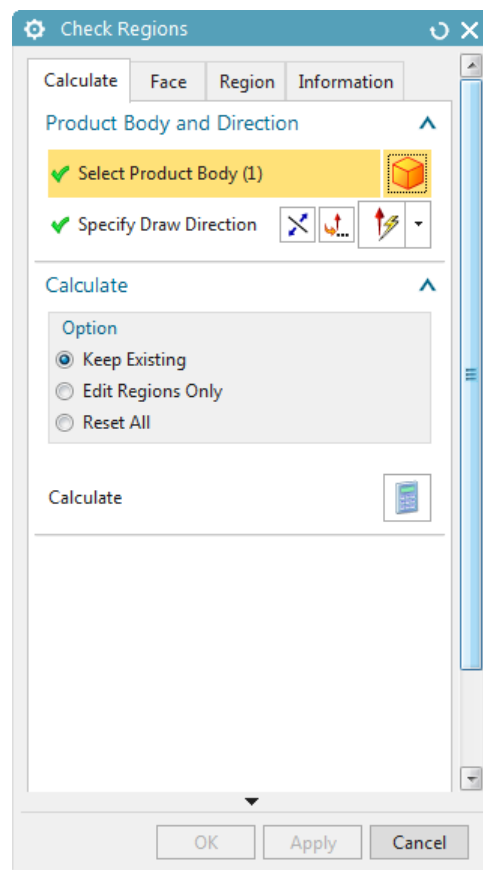

Figure 16-96 The Check Regions dialog box
1. Invoke the **Check Regions** tool from the **Parting Tools** gallery; the **Check Regions** dialog box is displayed, refer to Figure 16-96.